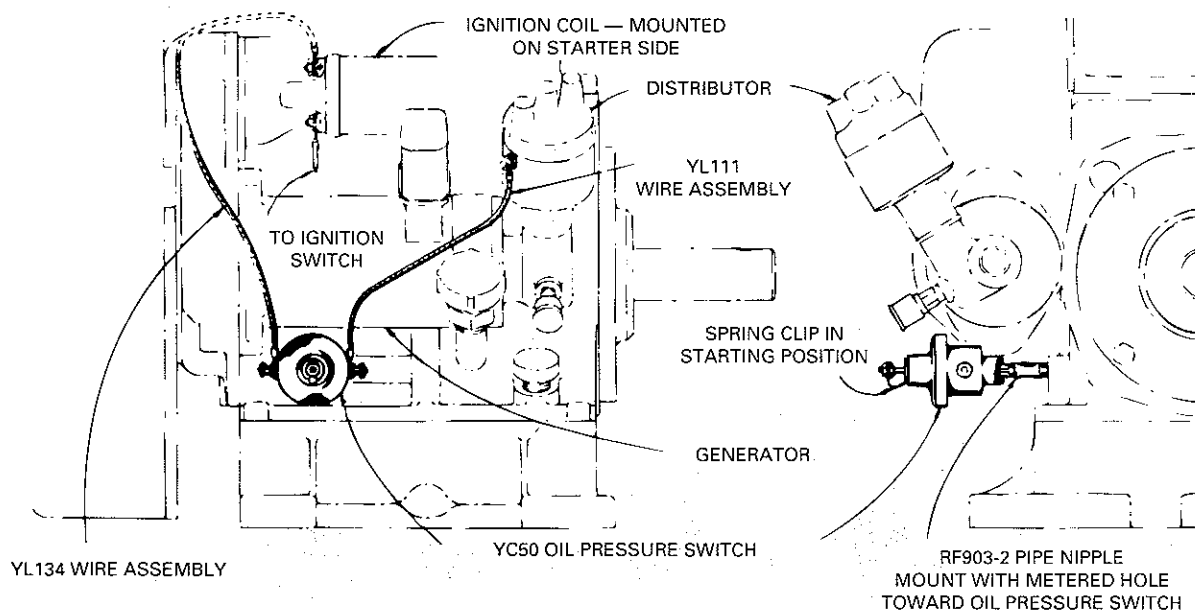

Fig. 4. Oil pressure switch mounting, with battery ignition, distributor
For engines with battery ignition, distributor, use a YC50S3 oil pressure switch kit. Mount switch as follows (see Fig. 4, page 19):
2. Mount YC50 oil pressure switch to pipe nipple, in position shown in Fig. 4.